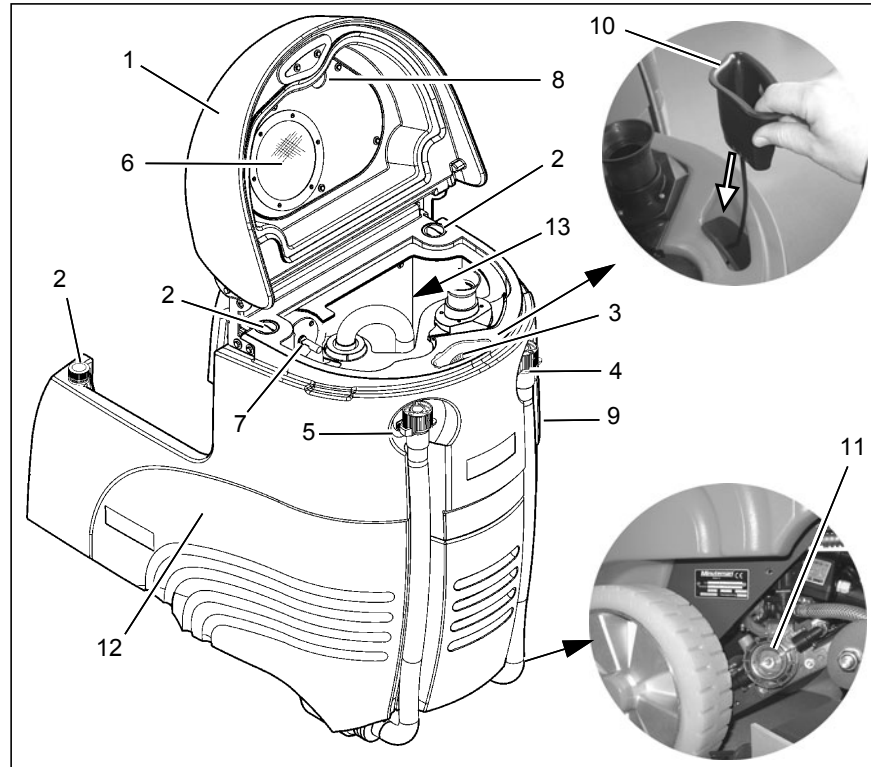

Fig.24
Park the vehicle so that the draining hose (Fig. 24/4) is above a drain in the floor. Remove the draining hose from the holder and open the cap by turning it counterclockwise.
Use the maintenance opening (Fig. 24/2) to clean the clean water tank (Fig. 24/12).
Clean the filter sieve (Fig. 24/6) by inserting a hose in the opening (Fig. 24/8) and flushing the sieve back from the inside.
Check the clean water filter (Fig. 24/11) weekly and clean or replace it as necessary.
Clean the waste water tank (Fig. 24/13) every day or as necessary.
1. Open the tank cap (Fig. 24/1) on the waste water tank.
2. Remove the draining hose (Fig. 24/5) from the holder and empty the waste water tank completely.
The waste water tank must always be emptied and flushed clean after finishing work. The float switch (Fig. 24/7) must also be rinsed clean. The cap on the draining hose should be cleaned regularly. Lubricate the O-ring lightly, if necessary.